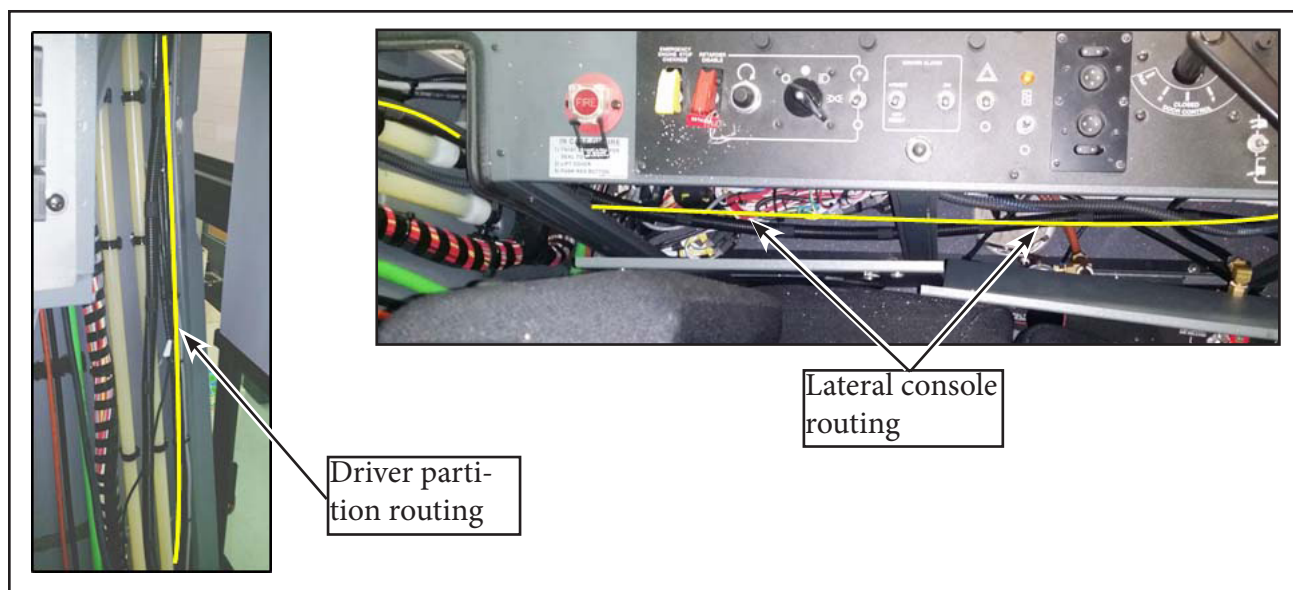

Figure 20 - Front to Back Cable Routing in Driver Area
- 2.7. Continue the front to back cable routing and tie wrapping through the lateral console and driver partition (see Figure 20).